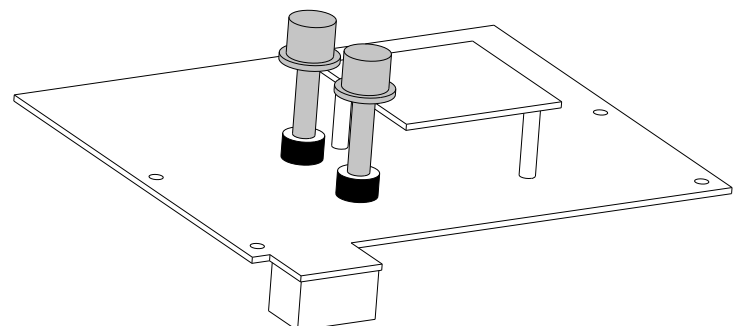

FIG. 6.
10. Gently remove force control shafts from old PCB and insert into rheostats on replacement PCB board. FIG. 6. Ensure proper placement.